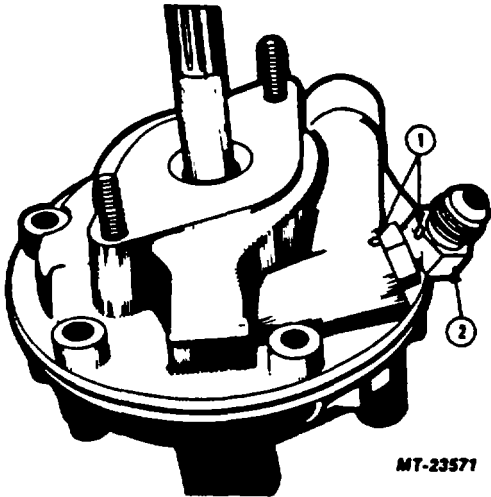

Fig. 40 Positioning Discharge Fitting
18. Locate discharge fitting in its original position as marked during disassembly (Figure 40), and tighten jam nut to specified torque.